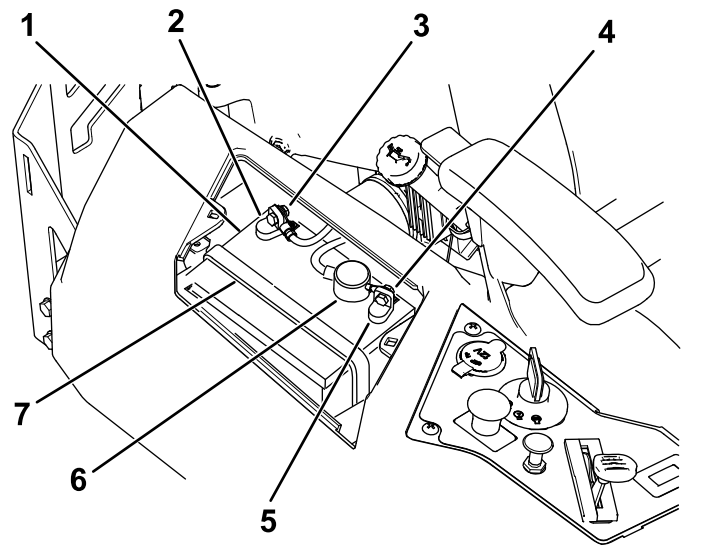

Figure 58
4. Disconnect the negative (black) ground cable from the battery post (Figure 58).
6. Disconnect the positive (red) cable from the battery post (Figure 58).
7. Remove the battery hold-down (Figure 58), and lift the battery from the battery tray.
1. Position the battery in the tray (Figure 58).
5. Secure the battery with the hold-down (Figure 58).